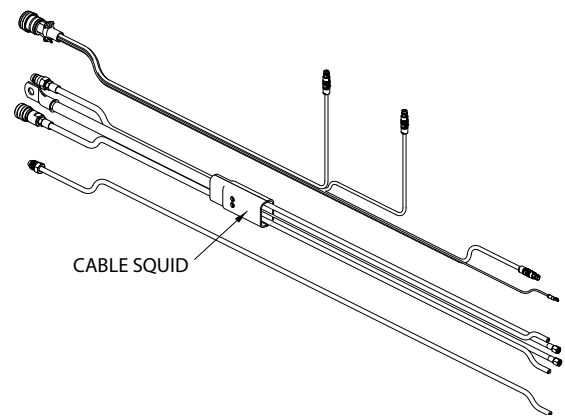

FIGURE 45 - Cable Squid
- Examine all cable connections at the squid connector, See **FIGURE 45 - Cable Squid** to verify that there are no water or gas leaks, and that all cables are seated correctly and that there is no visible wear and tear to the squid connector or associated cables.